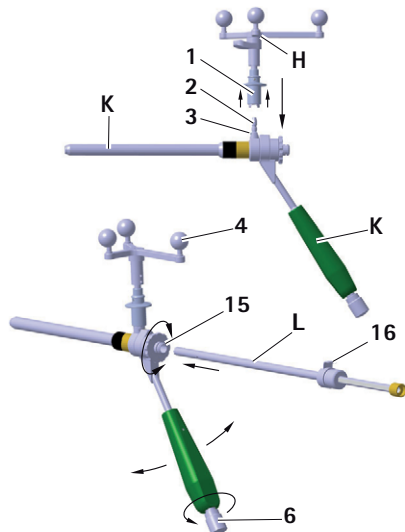

Fig. 12 Mounting the Aesculap star unit onto the S⁴C guide sleeve; Inserting the S⁴C inner drill sleeve
- To ensure that the camera has an unrestricted view of the reflective marker spheres, loosen knob **6** on the S⁴C handle of the S⁴C guide sleeve **K** and rotate Aesculap star unit **H** to the desired position, see Fig. 12.
The inner drill sleeve engages on the inner sleeve and can still be rotated, see Fig. 12.